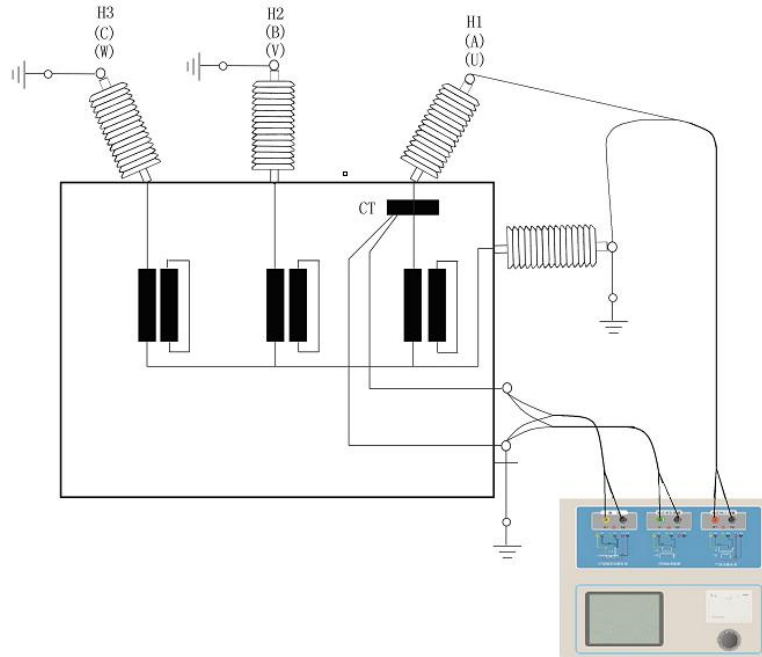

Figure D.3 ZXHQ-B on the transformer bushing testing at the time of CT Connection
2. ZXHQ-B for transformer testing casing CT Connection shown in Figure D.3.